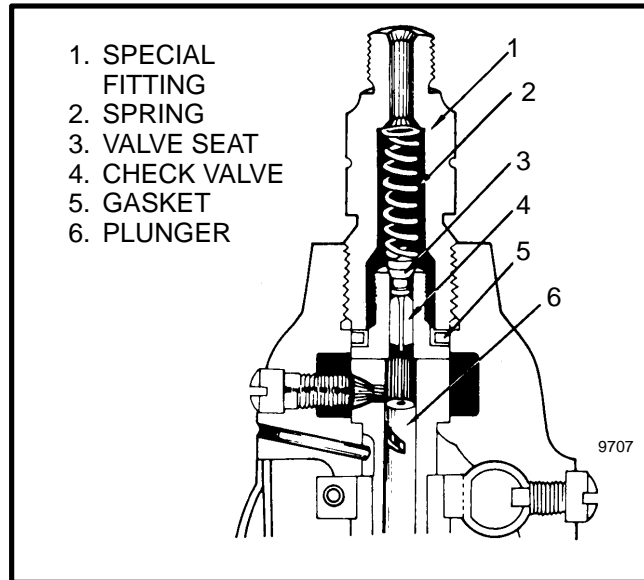

FIGURE 67. PLUNGER ASSEMBLY, FUEL INJECTION PUMP, MODEL PE4A
2. Remove the special fitting at the fuel injection pump for the **number one cylinder**. See FIGURE 67. Remove the spring and the check valve. Now install the special fitting to the injection pump without the spring and check valve.